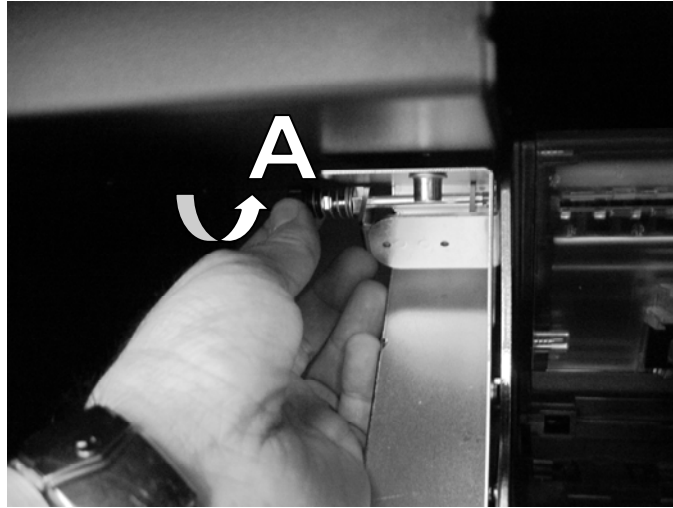

Fig. 12
- Once these verification operations are completed, put the cashbox and the validator head back into place and close the banknote path by pressing knob A and turning it anticlockwise (fig.12).